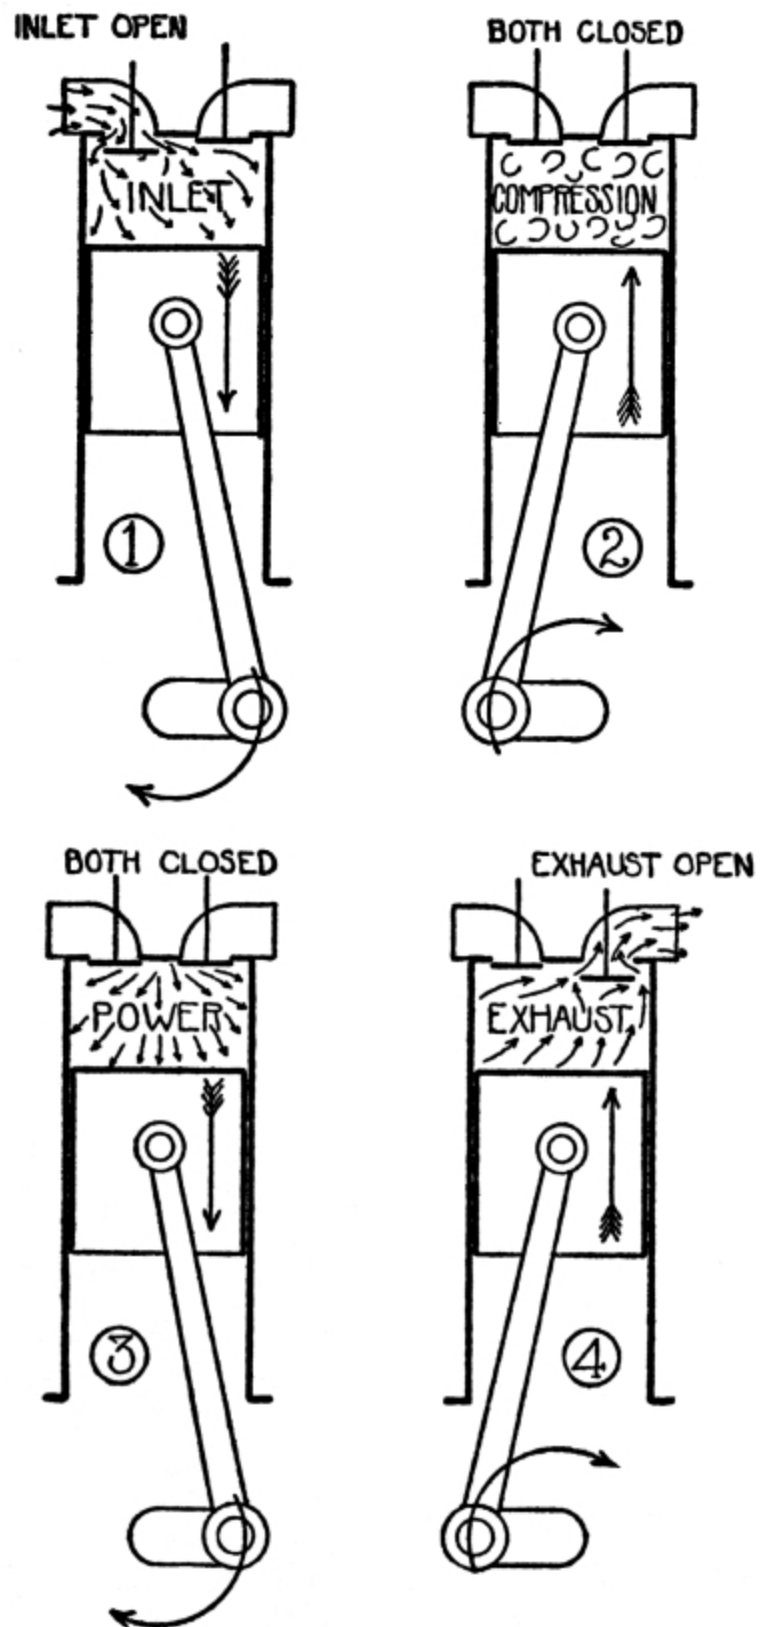

FIG. 1.—THE GAS ENGINE CYCLE
**Inlet Stroke.**—During the inlet stroke (No. 1, Fig. 1), the piston moves outward; the inlet valve is open, and the exhaust valve is closed. This movement of the piston creates suction, and if there are leaks in the cylinder, air will be sucked in and will spoil the proportions of the charge. This will prevent the proper burning of the mixture, and the engine will lose power.
**Compression Stroke.**—During the compression stroke (No. 2, Fig. 1) the piston moves inward, and both valves are closed. This movement places the piston in position to move outward on the power stroke. As the outlets to the cylinder are closed, the charge of mixture cannot escape, and is therefore compressed into the space between the piston and the cylinder head when the piston is at the inner end of its stroke. This space is usually about one quarter the volume of the cylinder; the charge is therefore compressed to about one quarter of its original volume.
**Power Stroke.**—During the power stroke (No. 3, Fig. 1) the piston moves outward, and both valves are closed. As it begins, the mixture is all on fire, and great pressure is exerted against the piston.
**Exhaust Stroke.**—During the exhaust stroke (No. 4, Fig. 1) the piston moves inward and the exhaust valve is open. This movement of the piston pushes the burned gases out of the cylinder, and it is clear that the more thoroughly the cylinder is emptied of them, the more room there will be for a fresh charge.